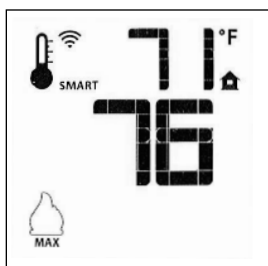

Figure 50. Smart Mode
- To activate this function, press the Thermostat Key until the word “SMART” appears to the right of the thermometer bulb icon. Fig. 50.